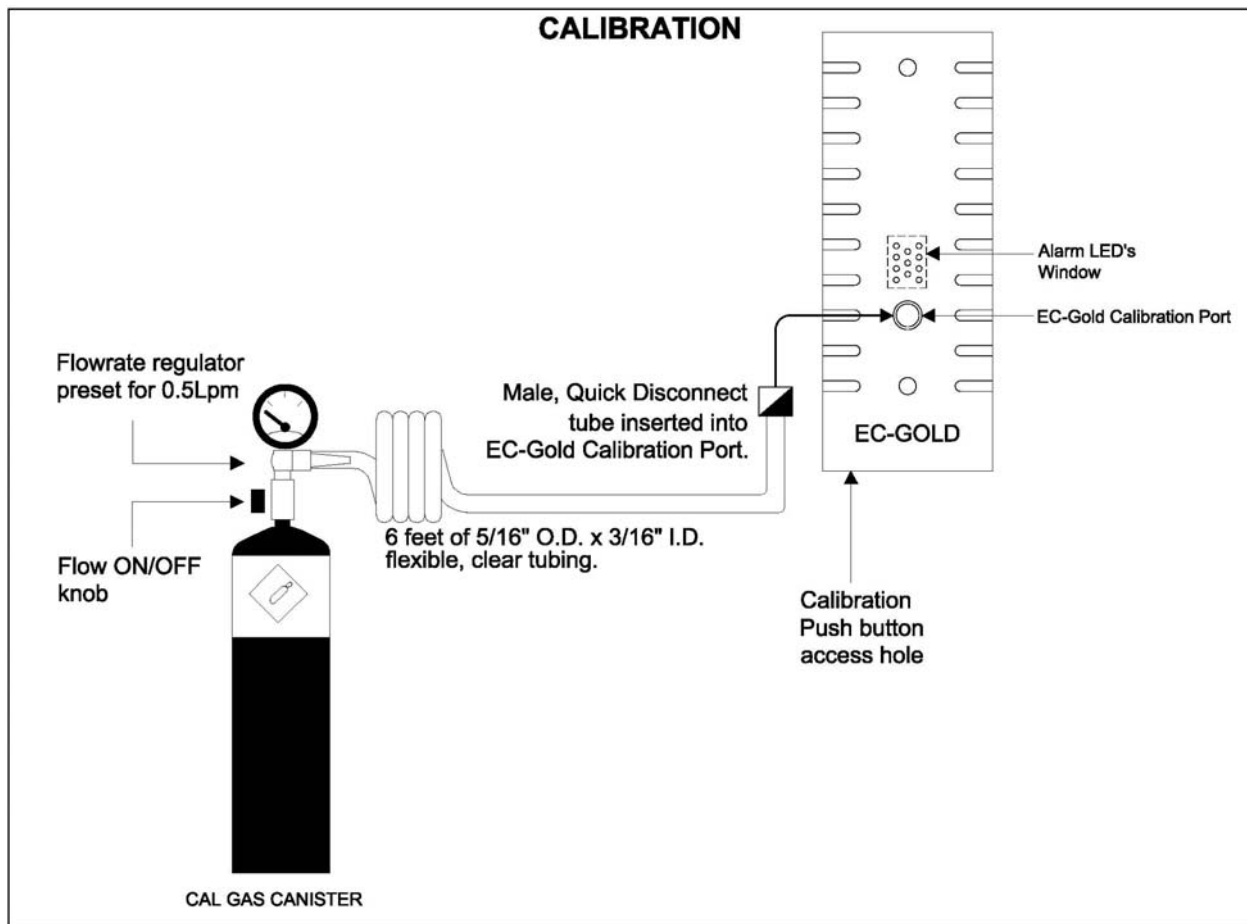

Figure 7 – CALIBRATION
2. The gas sensor is mounted directly behind the Calibration Port in the middle of the front plate of the EC-Gold housing [See Fig. 7]. Insert the Quick Disconnect tube into the EC-Gold's Calibration Port.